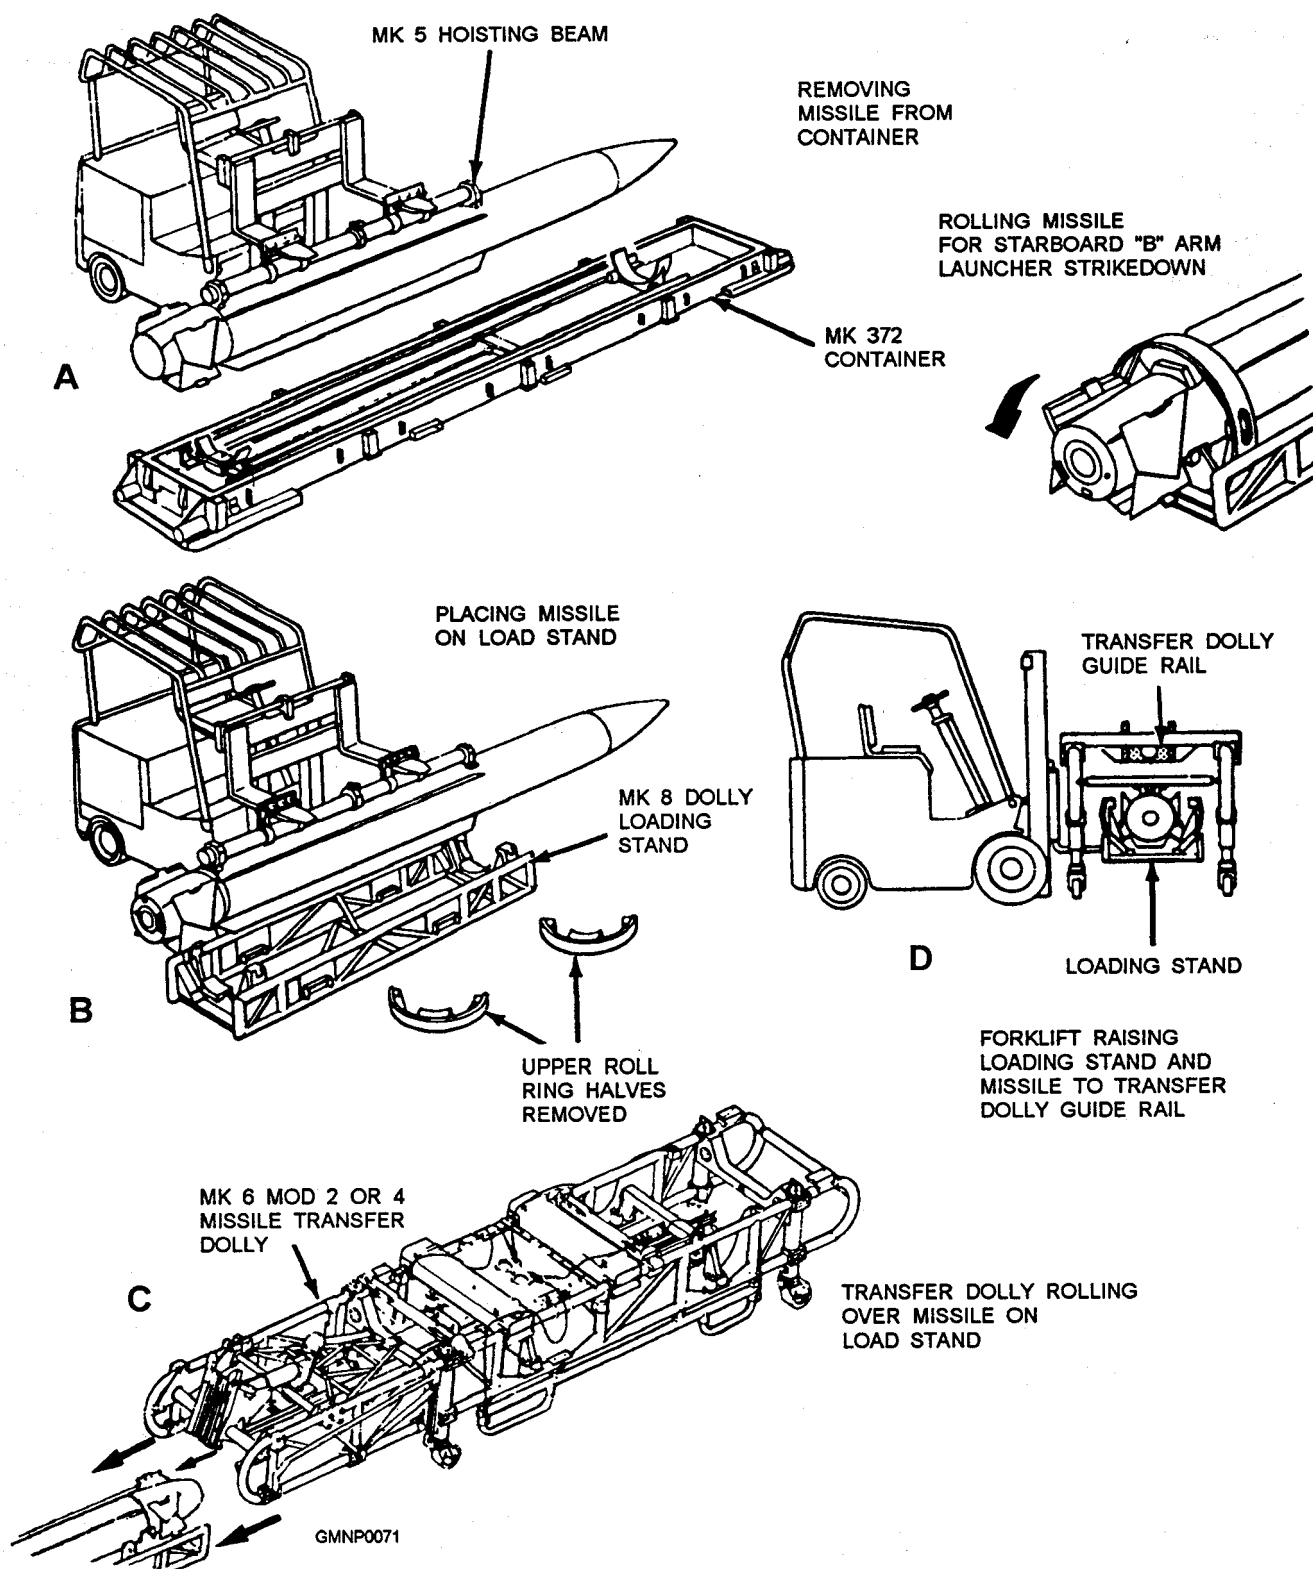

Figure 2-56.—A Standard MR missile handling sequence; container to loading stand to dolly roll.
**STANDARD HANDLING-ROLLING THE MISSILE.**— In certain situations, a Standard missile must be rolled or turned 180°. Figure 2-56 illustrates the key steps in this operation.
Now use your imagination. The Mk 5 hoisting beam in view A of figure 2-56 could be replaced with a Mk 15 beam; that is, if Mk 79 handling bands were installed on the missile. Also, in view A, the container could be substituted with Mk 100 stowage adapters or a Mk 20 stowage cradle. (Do you get the idea of the “imagining” exercise?) In view B of figure 2-56, the load stand could be a Mk 20 cradle instead. The operations in views C and D of figure 2-56 would be the same using a cradle. In certain sequences, even the